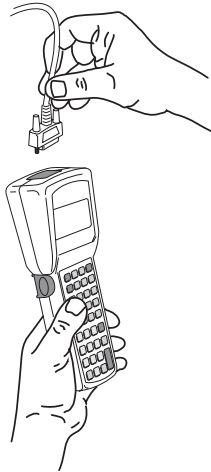

Figure 4-14. Attaching/Using a Scanner
3. Plug the scanner into the top of the terminal (refer to Figure 4-14).